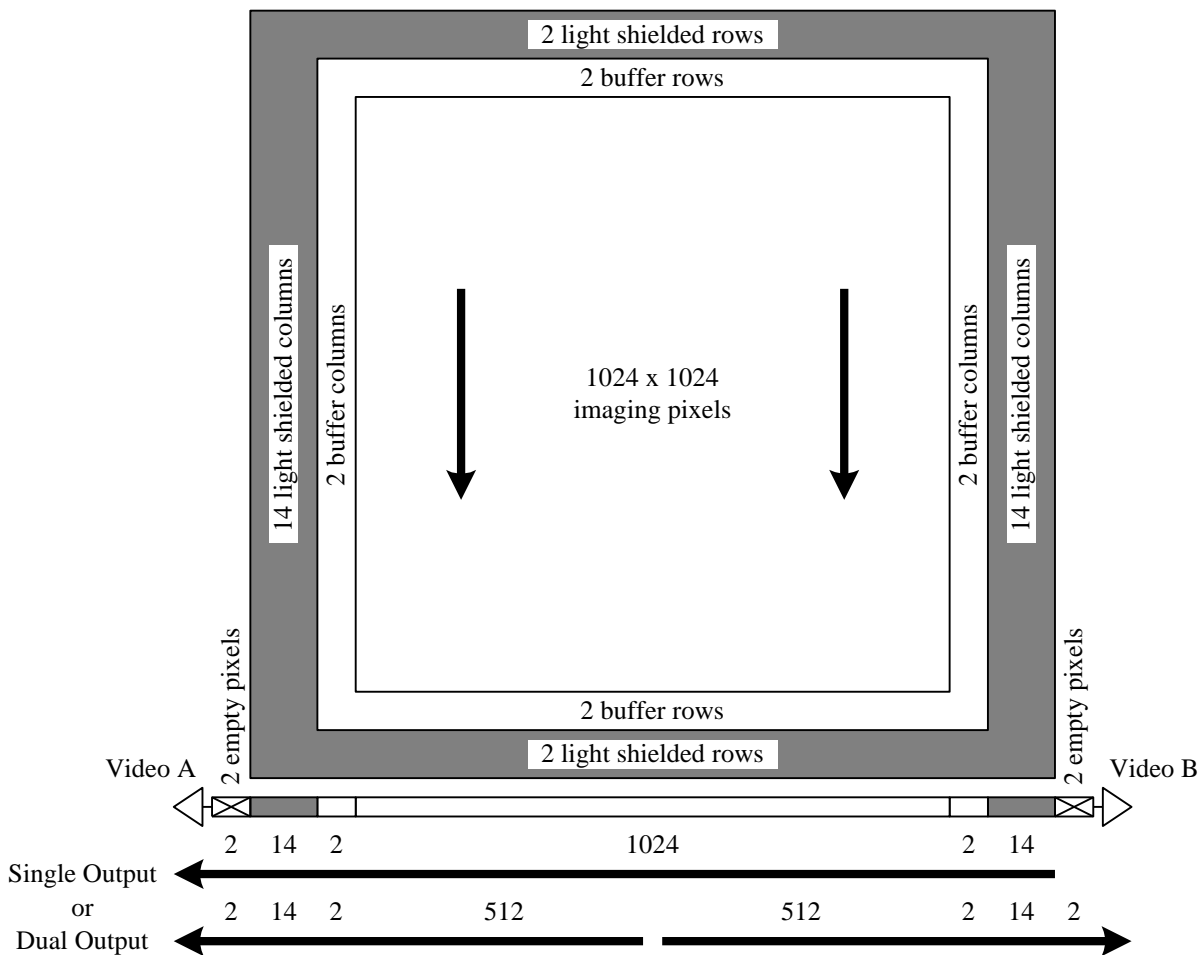

Figure 1: KAI-1003M Sensor Architecture
The single horizontal CCD register is split into two halves to allow a variety of line readout modes, as shown in Figures 1 and 2. The A output half of the register is a true two-phase design, which results in unidirectional transport using phases H1A and H2A. The B output half of the register is a pseudo two-phase design, which allows bi-directional transport using phases H1B, H2B, H1C and H2C. Dual output is achieved with all of the first phases identical and all the second phases identical. If the clocks of H1A and H2A phases are shifted by one half cycle, the output remains dual with the outputs alternating, so that only one analog-to-digital converter is necessary. Finally, single output of the entire image from the A output is obtained by complementing the C phases, which reverses transport in the B half of the horizontal CCD.
In addition to the 1024 (H) by 1024 (V) imaging pixels, there are active buffer, light shielded and empty pixels, as shown in Figure 1. A two-pixel border of active buffer pixels surrounds the imaging area. These buffer pixels respond to illumination but are not tested for defects and non-uniformities. Two light shielded rows lead and follow each frame, and 14 light shielded columns lead and follow each line. The light shielded columns are tested for column defects and can be used for dark reference. Only the center 10 columns by 1028 rows of light shielded region on each side can be used for dark reference due to light leakage into the border of two pixels at the edges. Finally, two empty pixels occur at the beginning of each line, which are empty shift register cycles not associated with any vertical CCD columns. Empty pixels may also occur at the end of the line, depending on the timing.